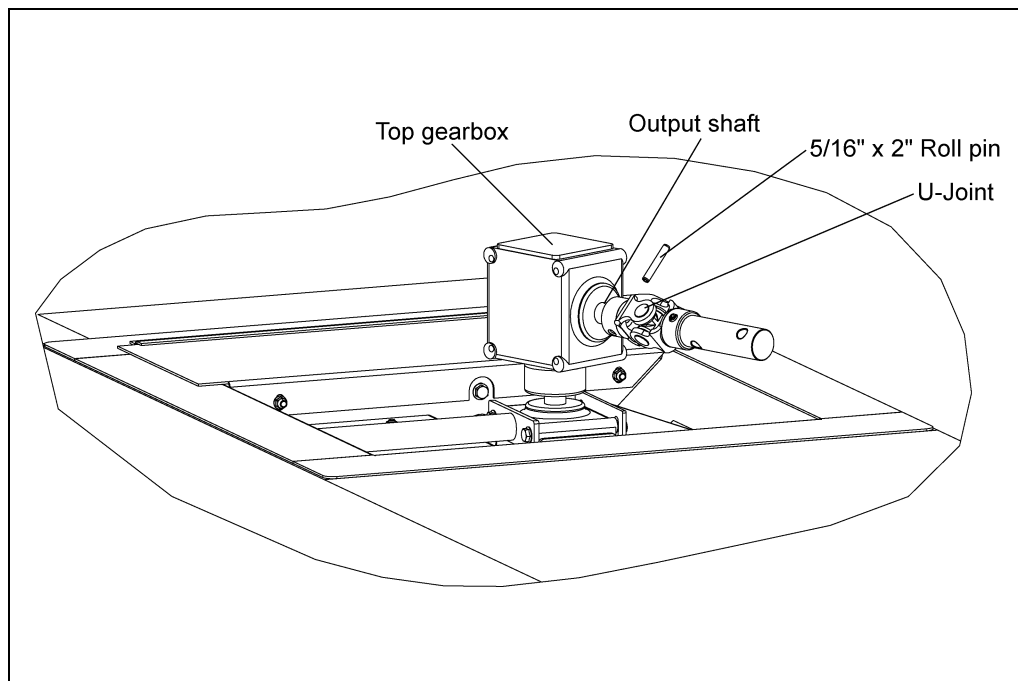

Figure 4Z
- b. Secure the U-joint using a 5/16" x 2" roll pin. (*See Figure 4Z.*)